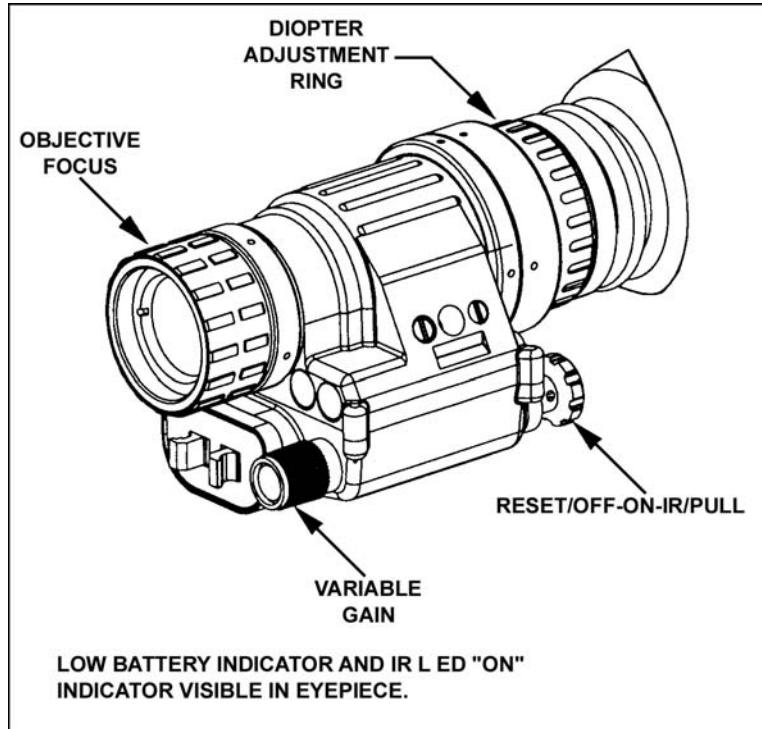

Figure 4. Monocular controls and indicators.
- (1) Check to ensure the switch is in the OFF position before installing the batteries (Figure 4).
- g. Adjust the objective lens focus (Figure 4) while observing an object until the sharpest image is obtained.